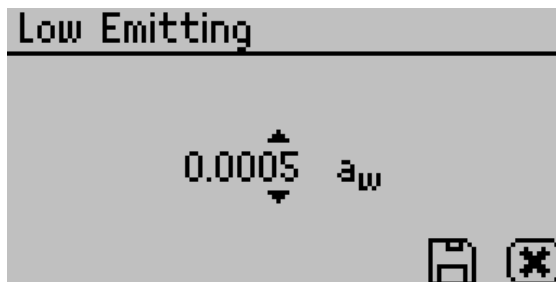

Figure 32 Low-Emitting mode
- ♦ Low-Emitting mode gives the option of speeding up test time by adjusting the equilibrium trigger value (Figure 32). This mode is for samples that are slow to equilibrate such as vegetable oils, high fat samples, and high viscosity samples.